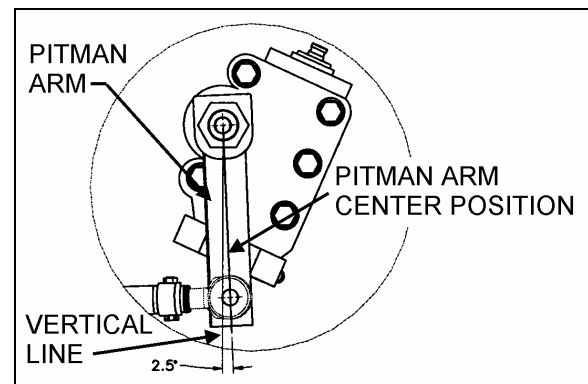

FIGURE 6: PITMAN ARM ADJUSTMENT
2. Using a protractor, check the angle of the pitman arm (refer to Fig. 6 for details).